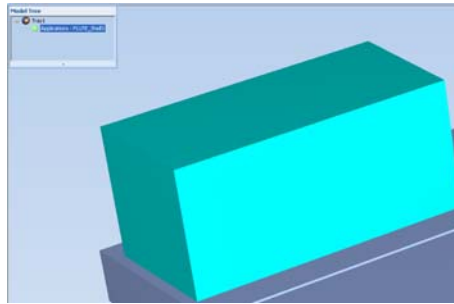

Figure 5-52: Model displayed with bounding box
- With a *Bounding Box* (see figure 5-52 on page 40)